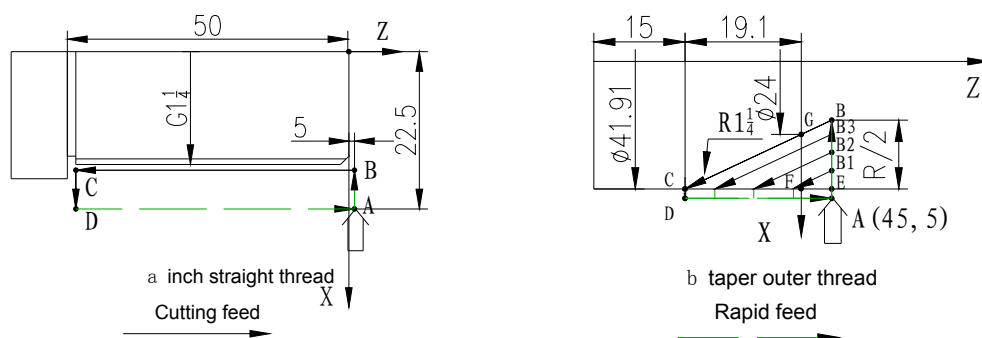

Fig. 4-28
5) Compound example: as Fig. 4-28
Example 1: Metric straight thread as Fig. 4-28 a. ($G1\frac{1}{4}$:11 teeth, $D=41.910$, $D2=40.431$, $D1=38.952$)
Example 2: Outer taper thread as Fig. 4-28 b ($R1 \frac{1}{4}$: $D=41.910$, $D2=40.431$, $D1=28.952$, $P=2.309$, the valid length of thread is 19.1)